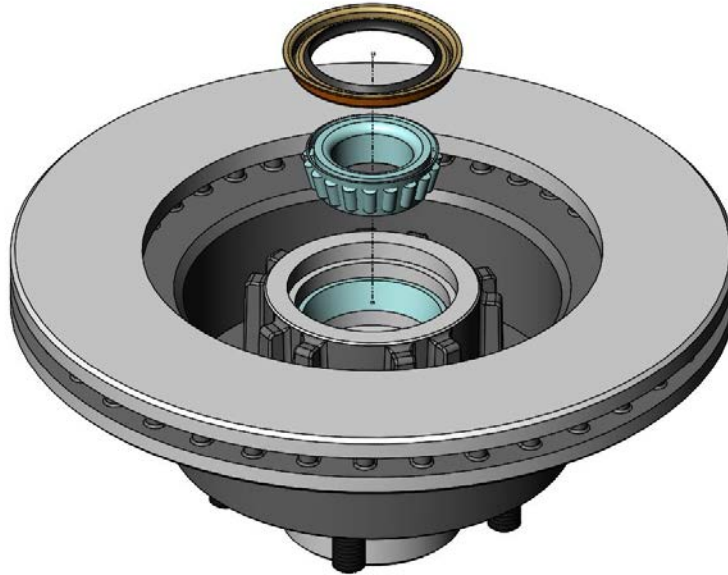

Figure 3 – Inner Wheel Bearing and Grease Seal Installation
7. The installation of the Inner wheel bearings and grease seals is next. The wheel bearings must be packed with a high quality wheel bearing grease available at your local parts store. Once the bearings are packed, the inner wheel bearings can be installed in the rotors. Once the inner bearings are installed, tap the inner grease seals in at this point. Figure 3 below shows them being installed.